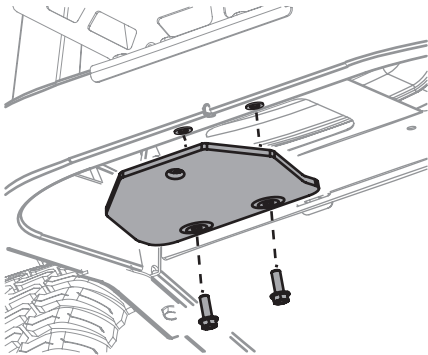

Figure 2
1. Locate hitch and install on the rear of the frame using the two hex washer screws provided (Figure 2).